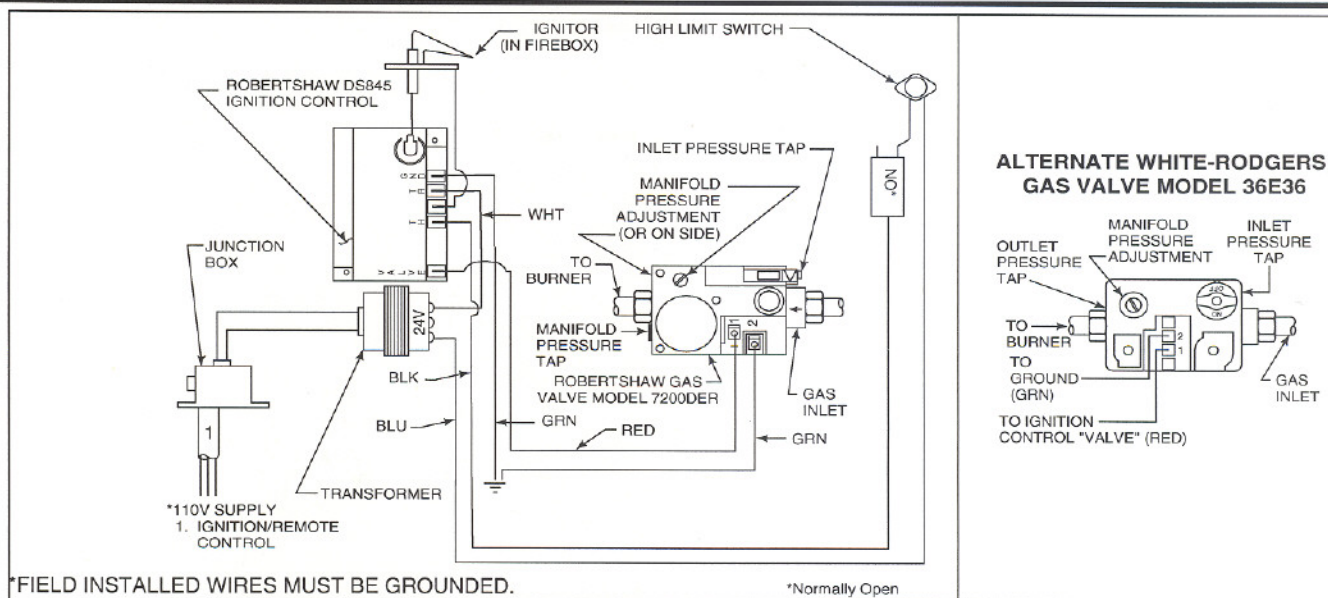

Figure 19
1. Appliance Requirements. This appliance requires a 110V power supply from a remote wall switch to the appliance junction box for operation. A wiring diagram is shown in Figure 19.